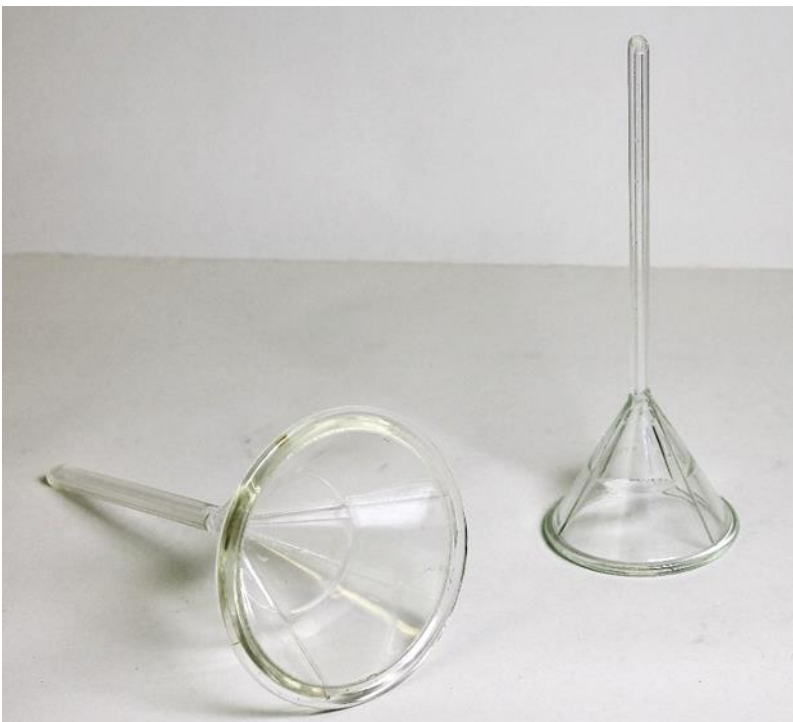

Figure 1 Long Flow Tube. Photo: Georg-August-Universität Göttingen
Figure 1 Example. Steel surface before phosphating, (b) after phosphating without the addition of nickel, (c) with nickel as a catalyst - the surface coating is denser and has finer crystals. Source: [4]
- After each NaOH-drop from the burette the solution needs to adjust, first compensation of free acid, with the beginning of the hydroxide precipitation "all new" OH^- and Mn^{2+} ions have to collide and precipitate. Then the pH value reaches a steady state. Due to our experience, in a 100 mL solution, containing ~ 0.05 g of Mn(II)-chloride tetrahydrate, if each drop needs roundabout a minute to form and fall, you will reach this chemical "rhythm". Note the new pH value after each drop, transfer to an excel graph. You will see, ideal reaction times presumed, a pattern similar to Figure 1 (b):
Figure 1 Precipitation of manganese (II) hydroxide becomes visible from pH 7.5 and reaches a maximum between pH 8 - 9. $T = 20\text{ }^{\circ}\text{C}$. F Photo: TU Clausthal